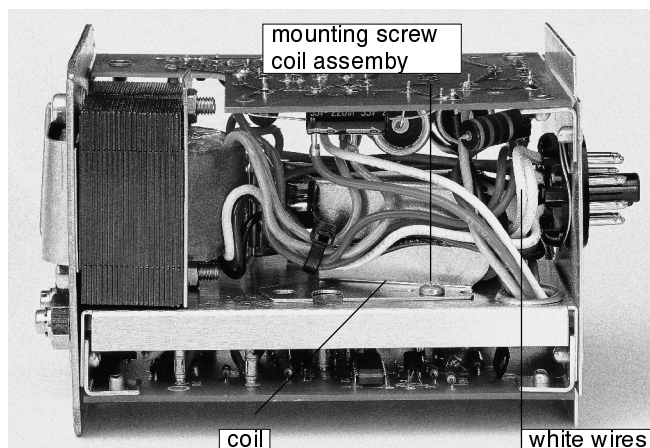

Fig. 20. Bottom view plug-in electronic chassis
2. Locate the coil near the bottom of the chassis (Figure 20.).